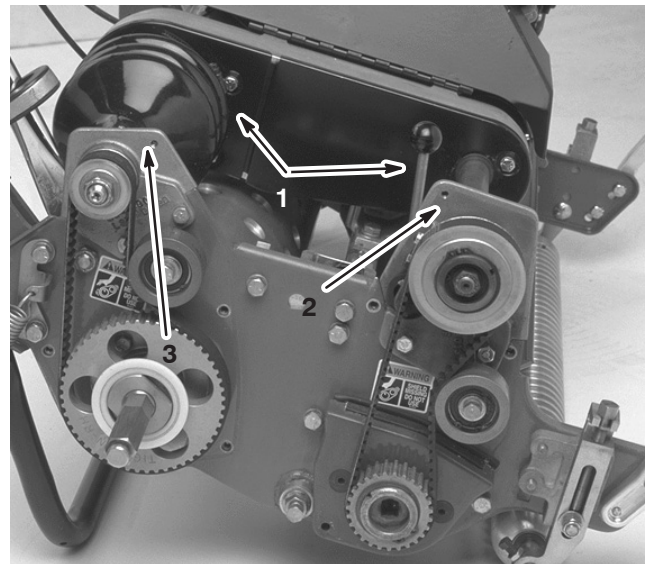

Figure 41
- Remove the capscrews securing the front and rear sections of the differential cover to the differential housing and slide the cover sections away to expose the belt (Fig. 41).
6. Remove the 2 capscrews and locknuts securing the front clutch housing to the side plate (Fig. 41).
8. Remove the 2 capscrews and locknuts securing the right rear bearing housing to the side plate (Fig. 41).